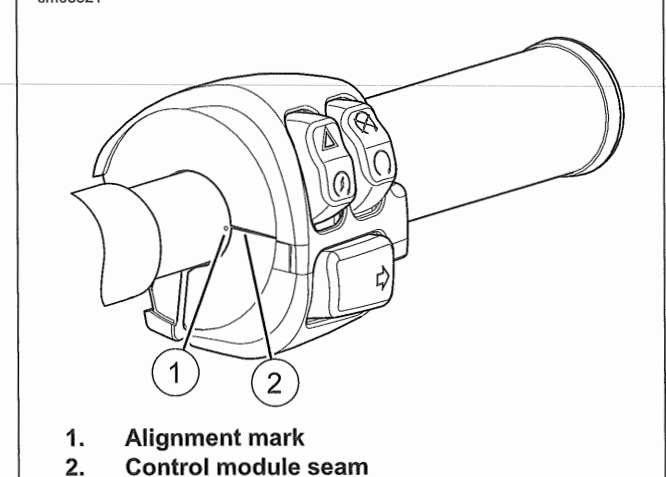

Figure 7-21. Hand Control Module Alignment (Typical)
5. See Figure 7-21. Install upper and lower switch housing. Align seam (2) with alignment mark (1).